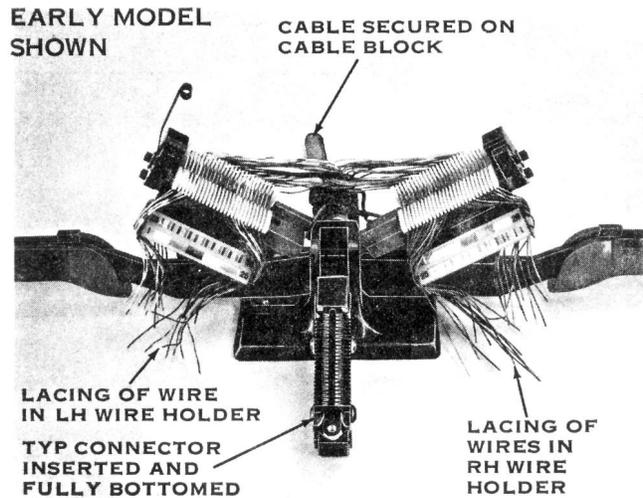

Fig. 3
3.07 Starting toward center of Tool, take wires for one side and then the other side. Lace each wire through outer comb (rear) and corresponding position in inner comb (front). Then bend at right angle under inner comb and around inside of guide support, while keeping wires taut. *Make certain* wires are **parallel** and color code corresponds to color bar. (See Fig. 3.)